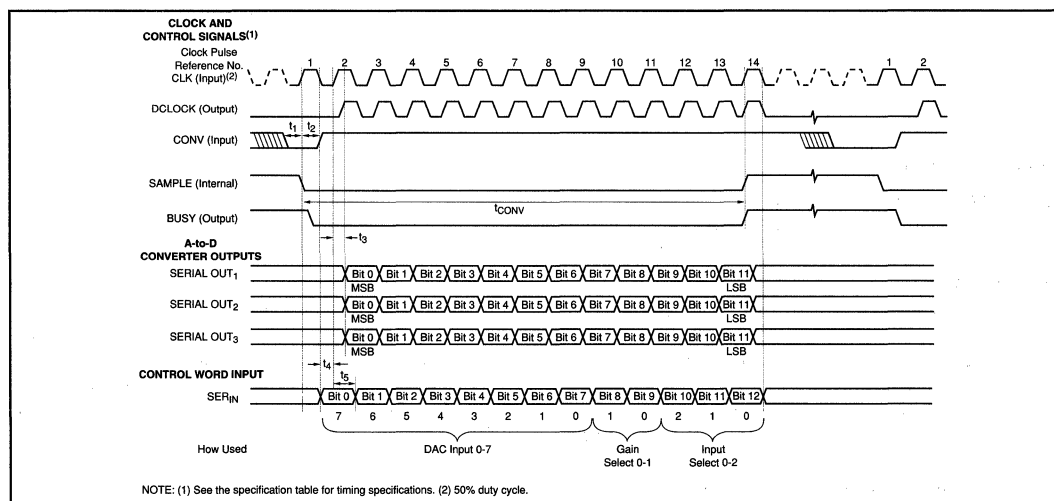

FIGURE 2. Timing Diagram.
The ADS7833 contains seven sample holds. Five of them (SH₁ through SH₅) sample simultaneously and have their sample/hold timing internally synchronized. (The timing is shown in Figure 2).
An 8-bit DAC provides 256 output voltage levels from 0V to 2.5V (see Table V for input/output relationships). The DAC is controlled by the DAC Input portion of the input setup word. The DAC Input portion of the word is strobed into the DAC at the end of the conversion cycle (14th CLK pulse in Figure 2).
Sampling and conversion is controlled by the CONV input (see Figure 2). The ADS7833 is designed to operate from an external clock supplied at the CLK input. This allows the conversion to be done synchronously with system timing so that transient noise effects can be minimized. The CLK signal may run continuously or may be supplied only during convert sequences. The BUSY and DCLOCK signals are internally generated and are supplied to make interfaces with microprocessors easier (see Figures 2, 4, and 6).
Configuration information for these parameters is contained in the SER_{IN} word (See Figure 2). As one conversion is taking place, the configuration for the next conversion is being loaded into the buffered Input Setup Register via the SER_{IN} word. Table I shows information regarding these parameters.
NOTE: (1) See Figure 2. "Clock Pulse Reference No."
The PGA gain is determined by the Gain Select portion (bits 8 and 9) in the SER_{IN} word (see Figure 2). There is one gain input that sets the same gain for all three PGAs. The gain values and allowable full scale inputs are shown in Table II. For channels one and two the PGAs set the gain for all three analog inputs. For the third channel, only the V₃₋₁ input is gain changed by the PGA. Inputs V₃₋₂, V₃₋₃ and V₃₋₄ are connected to ADC₃ at a fixed gain of 1V/V regardless of the Gain Select value.
The Input Select portion of the SER_{IN} word (bits 10, 11 and 12) (see Figure 2) are decoded and determine the open/closed condition of the multiplexer switches. This in turn determines which input signals are connected to the sample holds and which sample holds are connected to the PGAs/ADCs.
The value of the DAC output voltage is determined by the DAC Input portion of the SER_{IN} word (bits 0 through 7—see Figure 2). The 8-bit DAC has 256 possible output voltages from 0V to +2.49V. The value of 1 LSB is 0.0098V.